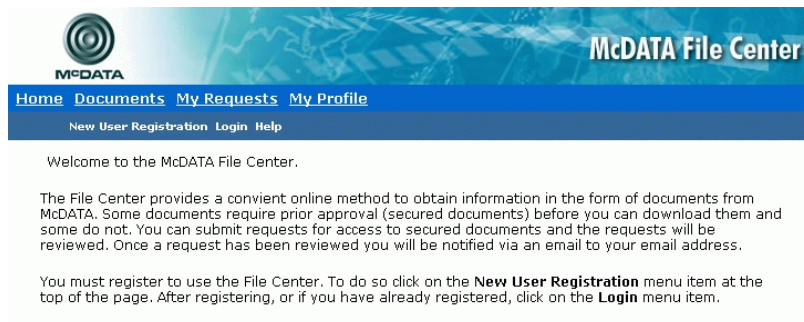

Figure 2-86 McDATA File Center Home Page
1. At a PC with Internet access, open the McDATA File Center home page (Figure 2-86). The uniform resource locator (URL) is <http://central.mcddata.com>.